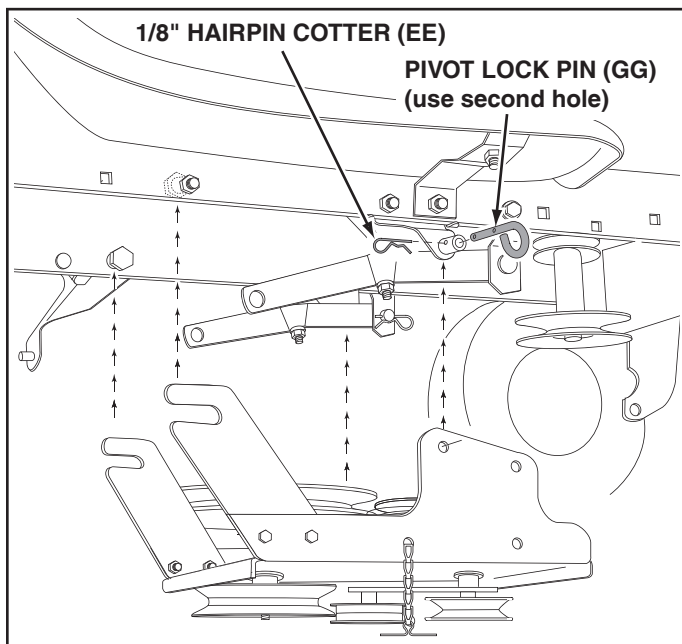

FIGURE 45
STEP 46: (SEE FIGURE 45)
- Attach the clutch/idler assembly to the tractor frame as follows. Hook the assembly's notched arms onto the two shoulder bolts you assembled to the inside of the tractor frame. Lift the front of the assembly and attach it to the R.H. and L.H. hanger brackets using two pivot lock pins (GG) and 1/8" hairpin cotters (EE).
NOTE; To prevent the chain from dragging on the ground, loop the end of the chain through the pivot lock pin. Refer to figure 45 on page 20.